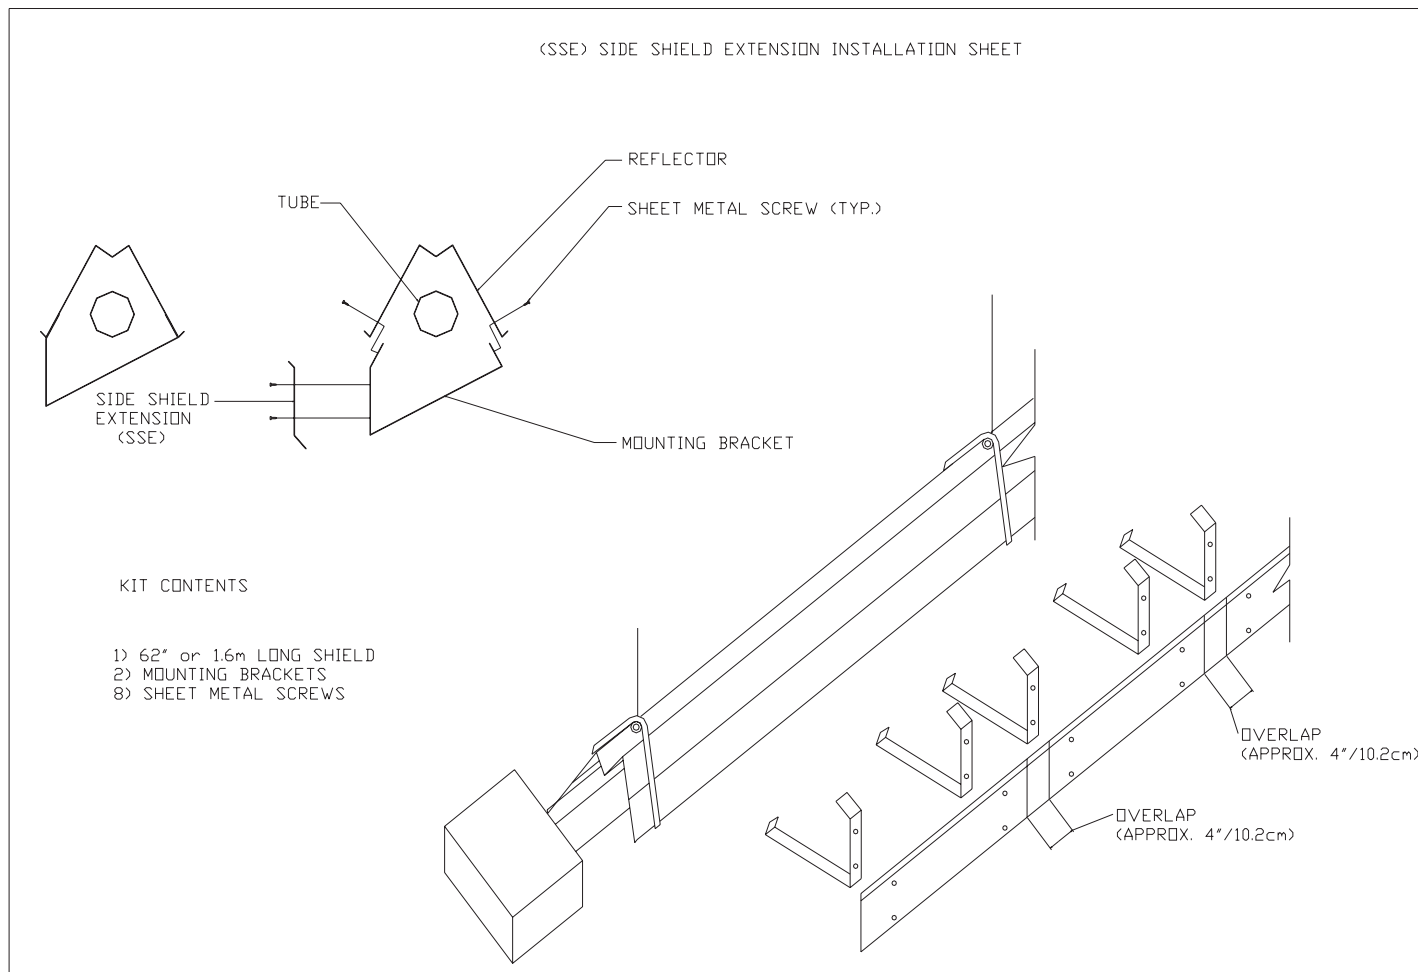

Figure 2.6.1
1. Install side shields as per figure 2.6.1. The clearance to combustibles will be altered when side shields are installed. Refer to safety information on page 3.